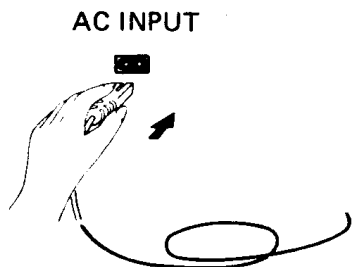

Fig. 6
1. Insert the female plug of the AC mains lead into the AC INPUT socket (Fig. 6).